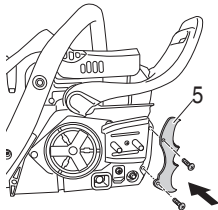

Fig. 4
* In case of installing the spiked bumper (5), install the spiked bumper (5) (if so equipped) to the unit with two screws. (Fig. 4)